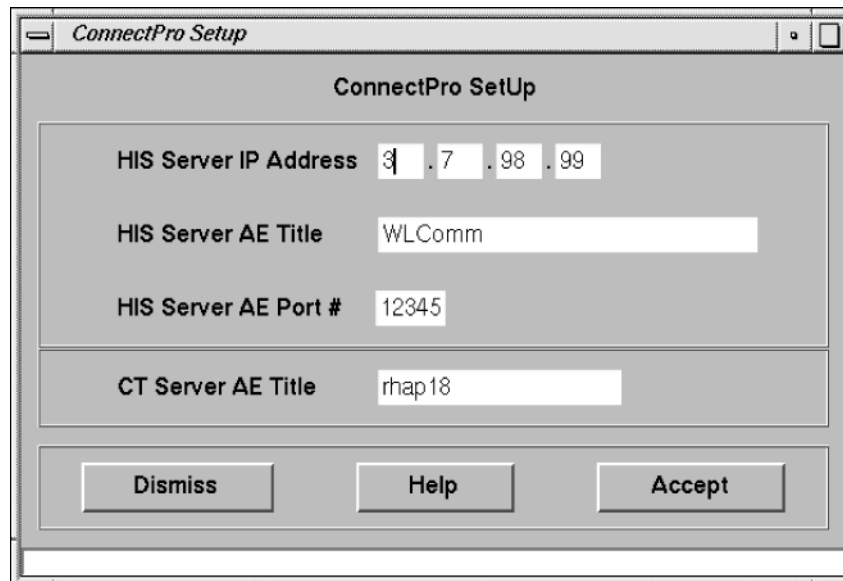

Figure 12-7 ConnectPro Setup Screen
- the console displays the ConnectPro Setup window as shown in Figure 12-7.